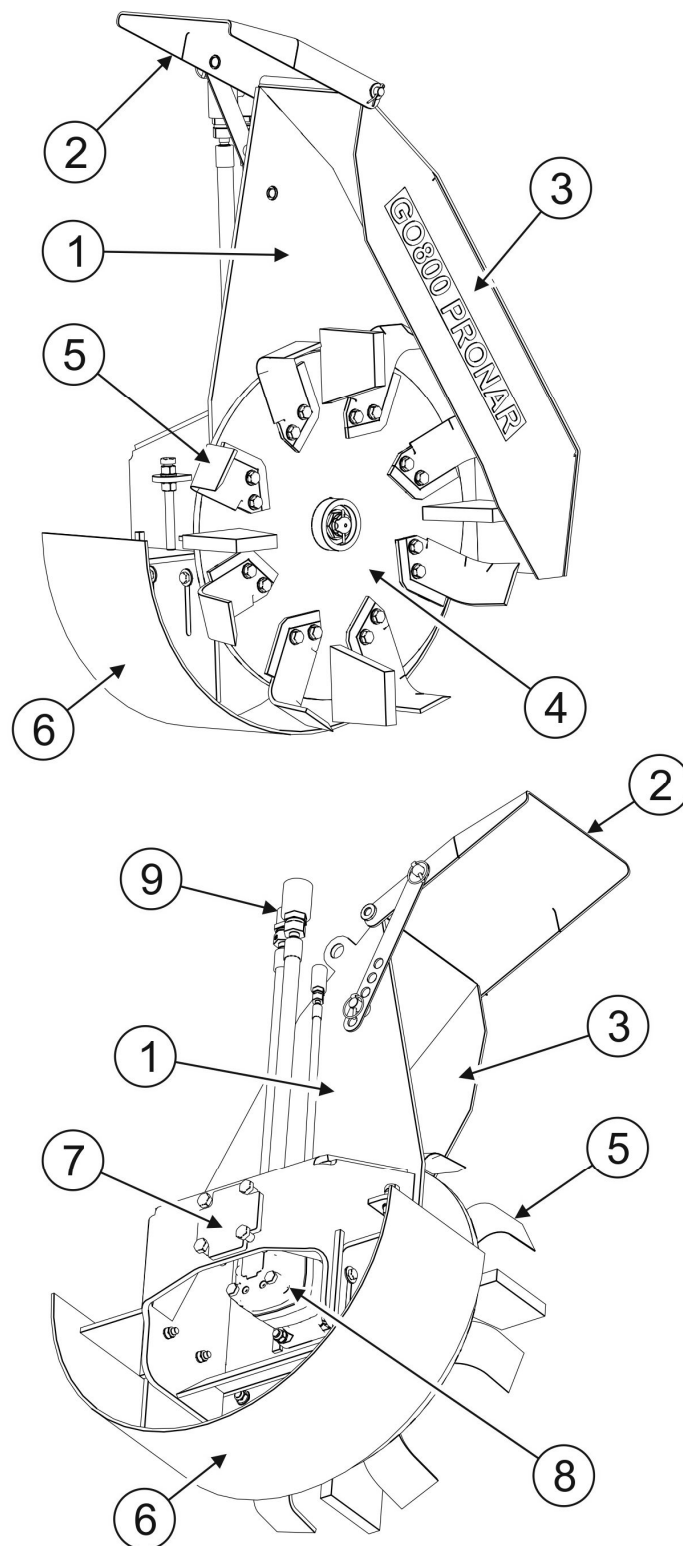

FIGURE 3.2 General design.
(1) - ditch digger body; (2) - adjustable deflector; (3) - side cover; (4) - rotor; (5) - angular blades ; (6) - skid; (7) - head connection; (8) - hydraulic motor; (9) - hydraulic lines;
The ditch digger consists of the body (1) (FIGURE 3.2) with a connection (7) allowing coupling the ditch digger with the head of the multifunction arm.